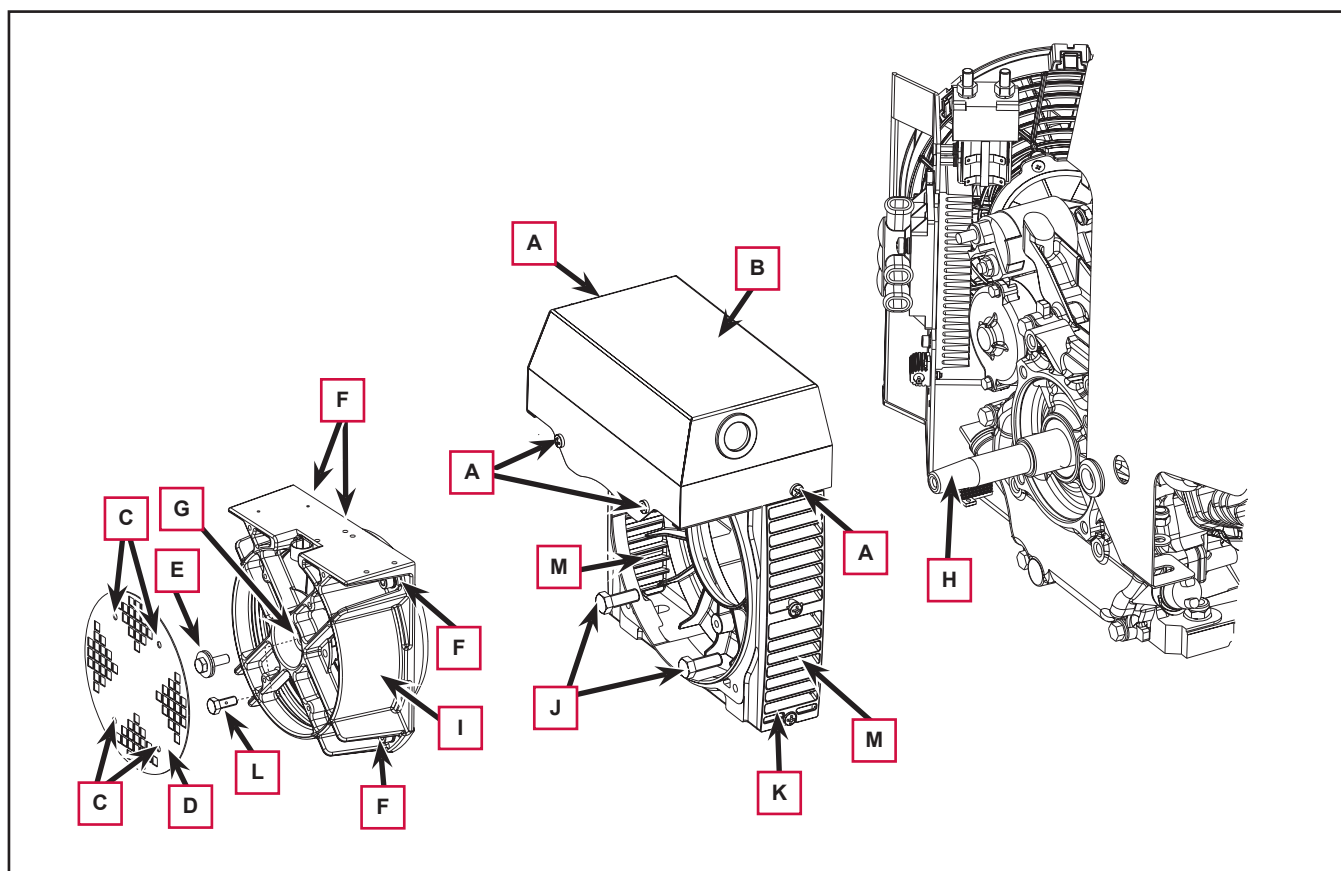

Figure 14
2. Working at the workbench, unscrew the perimeter screws (A, Figure 14) and remove the cover (B).
3. Unscrew the screws (C) and remove the grid (D).
4. Unscrew the screw (E).
5. Unscrew the four screws (F).
6. Screw in an M12 screw (L), approximately 40 mm in length, into the hole (G), bringing it into contact with the crankshaft (H) and use it as an extractor, screwing it in far enough to remove the alternator (I) from the engine.
7. If necessary, unscrew the four screws (J) and remove the coupling flange (I).